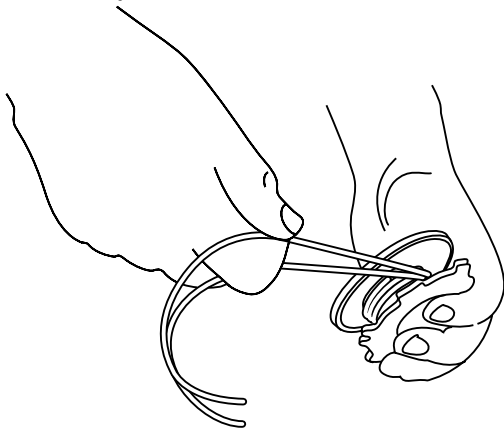

Fig. 26
7. Wind the lines in tight even layers, onto the reel (Fig.26). Wind the line in the direction indicated on the inner reel. Place your index finger between the two lines to stop the lines from overlapping. Do not overlap the ends of the line.